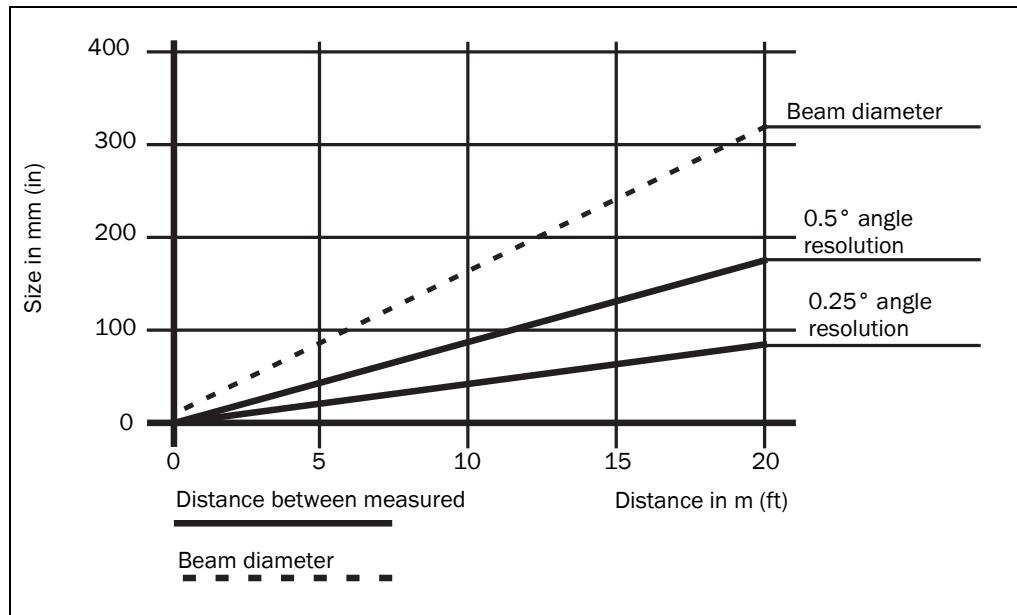

Fig. 15: Beam diameter and distance between measured points at 0 to 20 m (0 to 65.62 ft)
The diagram in Fig. 15 shows the beam diameter and the measured point spacing as a function of the distance from the LMS.
**Example for angular resolution 0.25° in Fig. 15**
**Example for angular resolution 0.50° in Fig. 15**
- For beam diameter and measured point spacing as a function of the distance from the LMS see the diagram in Fig. 15.